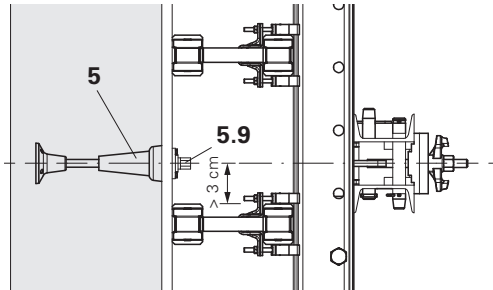

Fig. C1.05
During formwork planning, attention must be paid that there is sufficient spacing between bracket axes and the GT 24 formwork girder opposite. Otherwise, mounting the Leading anchor (5) with the Anchor Positioning Stud M24 (5.9) is not possible. (Fig. C1.05)